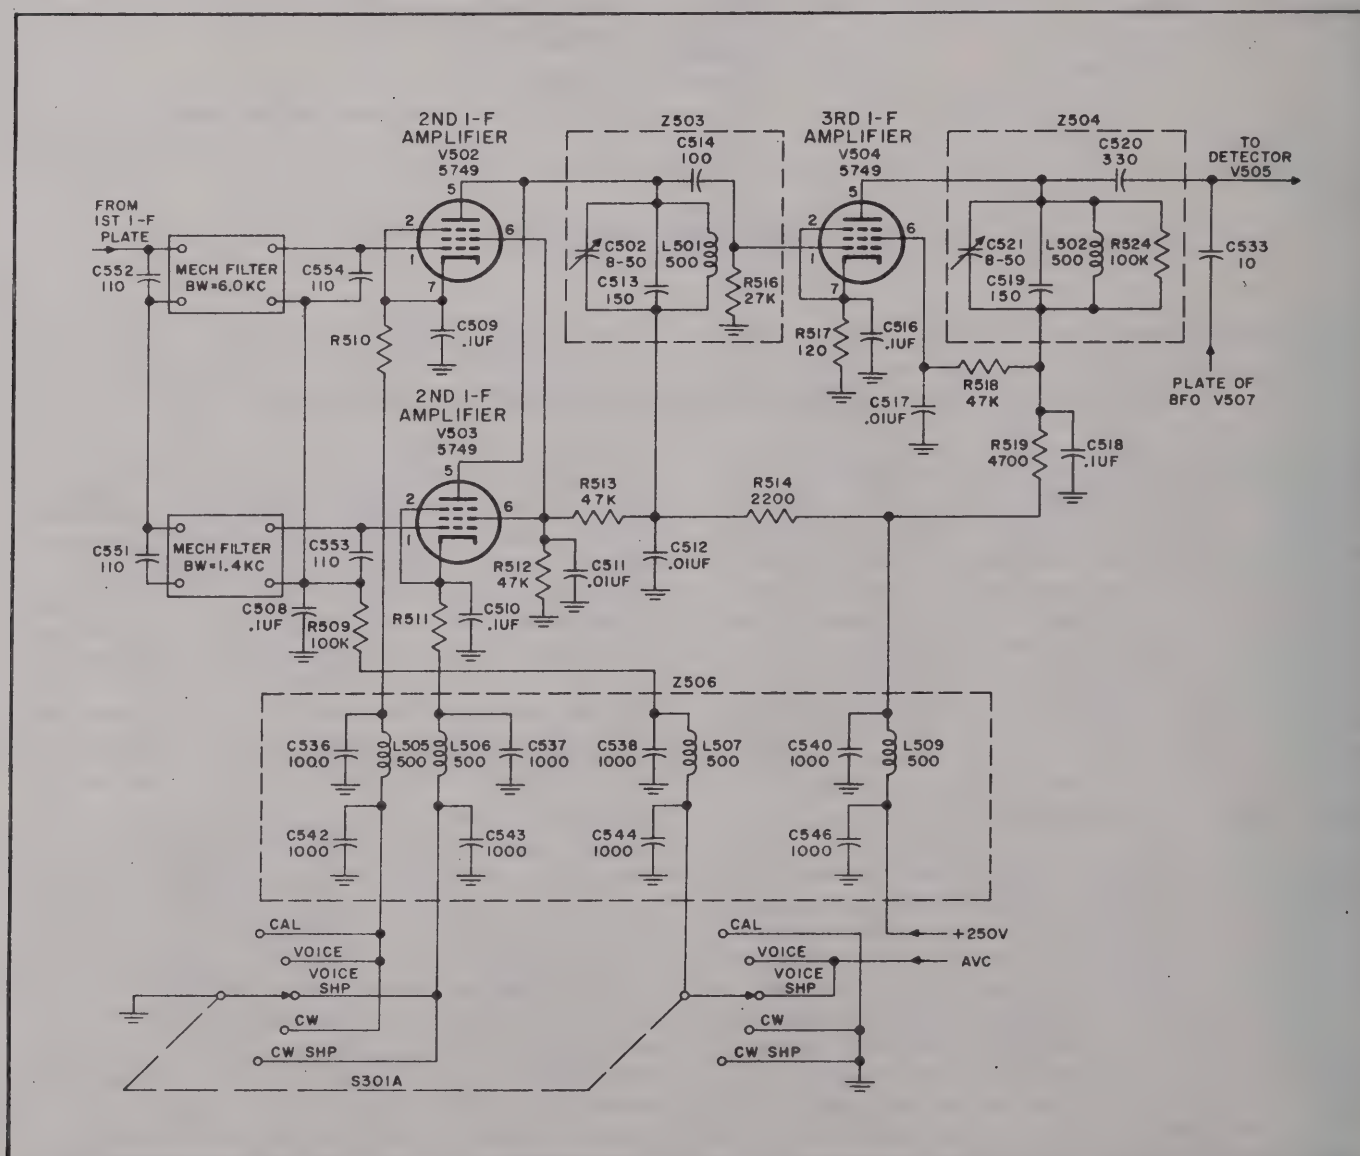

Figure 4-12. Second and Third I-F Amplifiers, Simplified Schematic Diagram
**4-20. SECOND AND THIRD I-F AMPLIFIERS.** (See figure 4-12.) The grid impedances for the second i-f amplifiers consist of the transducer output coils and capacitors C553 and C554, which form tuned circuits resonant at 500 kilocycles. Avc voltage is applied to the grids through contacts of S301A, through the avc filter, and through the avc decoupler consisting of R509 and C508. Only one of the second i-f amplifiers is operated at a time, depending upon which mechanical filter is selected. Contacts of switch S301A determine which of the two cathodes is to be grounded, and thereby which i-f amplifier is to be used. Both amplifiers employ cathode bias and a line filter consisting of two capacitors and one inductor. The i-f signal is amplified and impressed across tuned circuit Z503, which attenuates all frequencies except the 500-kilocycle i-f signal. The signal is passed through capacitor C514 and developed across resistor R516. Third i-f amplification takes place in V504, with V504 serving as the plate-tuned circuit. The signal is passed through capacitor C520 to the detector, V505.